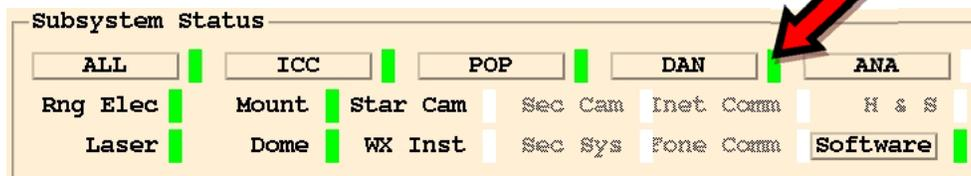

Figure 8-11: DAM Subsystem Status
- 7. **Verify that the status of DAM is green** (Figure 8-11)
- a. If the status is any color other than green, click on the status button (Figure 8-11).